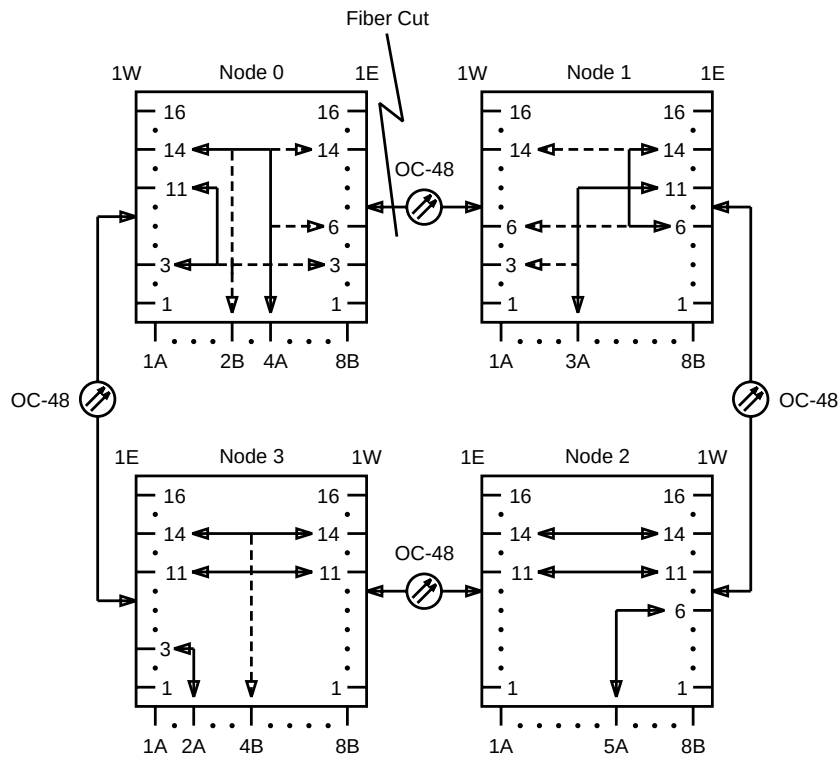

Figure 9-7. Bidirectional Line-Switched 2-Fiber Ring (Single Failure)
Figure 9-7 shows a 2-fiber bidirectional, line-switched ring when a fiber cut occurs between two nodes. Automatic 2-fiber ring protection switching occurs in response to a signal fail or signal degrade condition on an incoming OC-48 high-speed signal.
- The LNCTL circuit pack transmits a request to preempt any extra traffic to the board controllers of the transmission circuit packs. After extra traffic is preempted, through cross-connections are established for the protection STS-3 tributaries. Through cross-connections are established using the C bus between the west OC48 RCVR (A/D) and east OC48 TRMTR (A/D) circuit packs and the east OC48 RCVR (A/D) and west OC48 TRMTR (A/D) circuit packs. Figure 9-7 shows that extra traffic has been preempted and through cross-connections have been established for the protection STS-3 tributaries at nodes 2 and 3. The add/drop cross-connections to the service STS-3 tributaries are not affected.
- The low-speed interface circuit packs that add/drop traffic to/from the failure, and the east OC48 TRMTR (A/D) and OC48 RCVR (A/D) circuit packs switch traffic to the protection STS-3 tributaries of OC-48 high-speed line 1E. An add/drop cross-connection is established between the affected low-speed interface slot and the protection STS-3 tributaries of OC-48 high-speed line 1E. The add/drop cross-connection is established using the A bus between the affected low-speed interface circuit pack and the east OC48 TRMTR (A/D) and OC48 RCVR (A/D) circuit packs. Figure 9-7 shows low-speed interface slot 3A cross-connected to the protection STS-3 tributary 11 of OC-48 high-speed line 1E.
- The east OC48 TRMTR (A/D) and OC48 RCVR (A/D) circuit packs loop back all the through STS-3 tributaries transmitted toward the failure from the service STS-3 tributaries to the protection STS-3 tributaries of OC-48 high-speed line 1E. The loopback is established using the B bus between the east OC48 TRMTR (A/D) and OC48 RCVR (A/D) circuit packs. Figure 9-7 shows extra traffic is preempted and service STS-3 tributary 6 of OC-48 high-speed line 1E is looped back to protection STS-3 tributary 14. (Table 9-4 shows the mapping between the service STS-3 tributaries and their protection STS-3 tributaries.)
- The low-speed interface circuit packs that add/drop traffic to/from the failure, and the west OC48 TRMTR (A/D) and OC48 RCVR (A/D) circuit packs switch traffic to the protection STS-3 tributaries of OC-48 high-speed line 1W. An add/drop cross-connection is established between the affected low-speed interface slot and the protection STS-3 tributaries of OC-48 high-speed line 1W. The add/drop cross-connection is established using the A bus between the affected low-speed interface circuit pack and the west OC48 TRMTR (A/D) and OC48 RCVR (A/D) circuit packs. Figure 9-7 shows low-speed interface slot 4A cross-connected to the protection STS-3 tributary 14 of OC-48 high-speed line 1E.
- The west OC48 TRMTR (A/D) and OC48 RCVR (A/D) circuit packs loop back all the through STS-3 tributaries transmitted toward the failure from the service STS-3 tributaries to the protection STS-3 tributaries of OC-48 high-speed line 1W. The loopback is established using the B bus between the west OC48 TRMTR (A/D) and OC48 RCVR (A/D) circuit packs. Figure 9-7 shows extra traffic is preempted and service STS-3 tributary 3 of OC-48 high-speed line 1W is looped back to protection STS-3 tributary 11. (Table 9-4 shows the mapping between the service STS-3 tributaries and their protection STS-3 tributaries.)